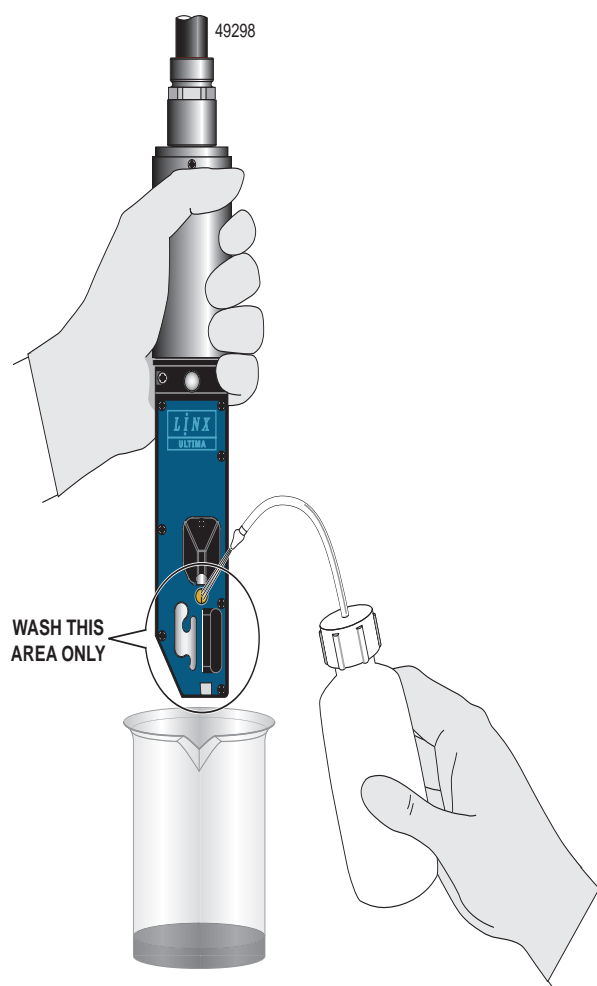
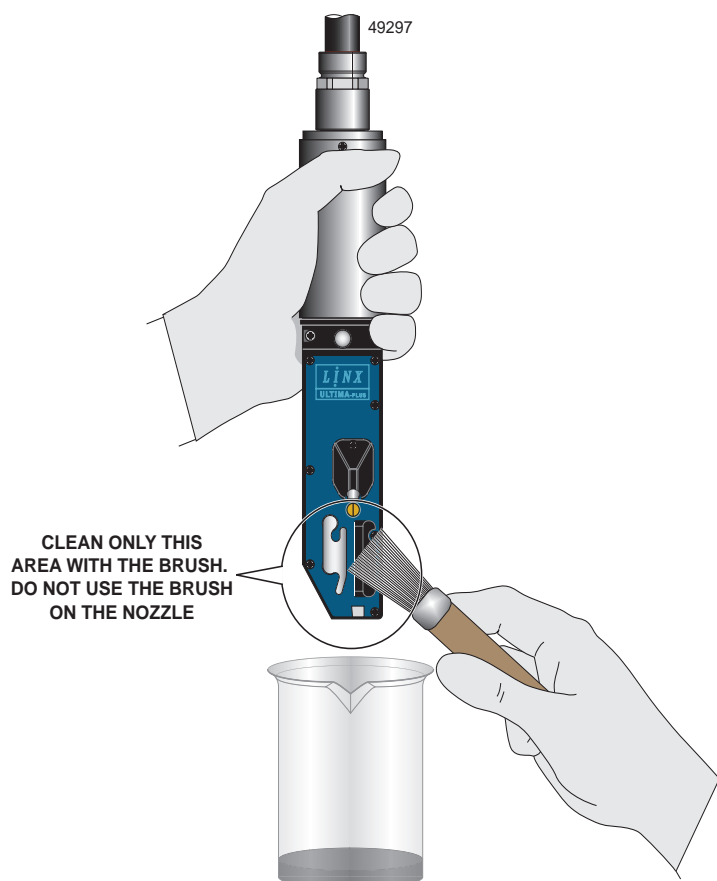

Figure 7-15 Cleaning the Printhead
Figure 7-16 Cleaning the Printhead with the Brush (Pigmented Inks Only)
3. Hold the printhead as shown in Figure 7-15 below, or mount it on a wash station if you have one.
3. Hold the printhead as shown in Figure 7-15, or mount it on a wash station if you have one.
5. Using the brush supplied with the printer, gently remove any ink deposits that will not wash off from the circled area in Figure 7-15, paying particular attention to the deflector plates (see Figure 7-16 below). **Do not use the brush to clean the nozzle:**